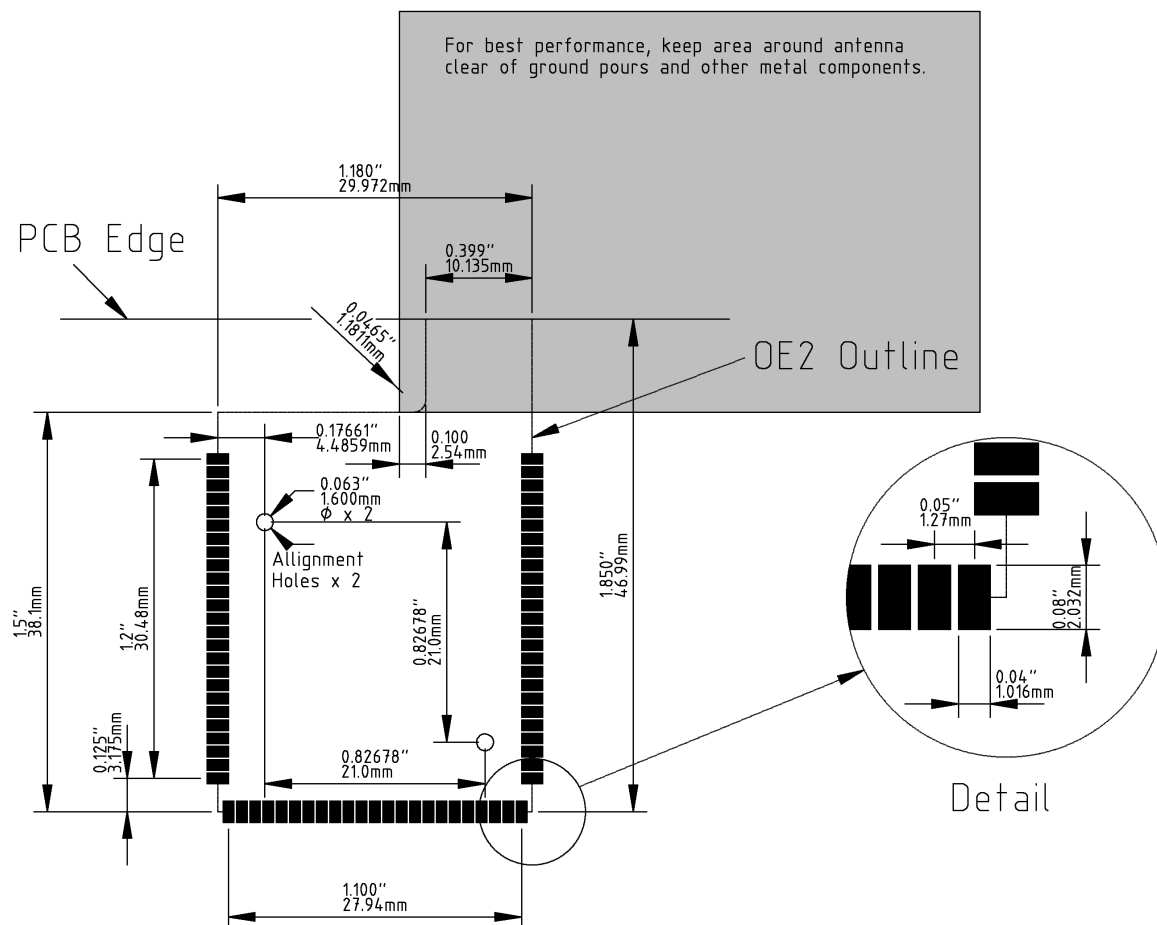

Figure 5: Suggested Footprint For Printed Circuit Board Layout
- When mounting the OE2 Module onto a host PCB, use the suggested PCB footprint in Figure 5 for best results.